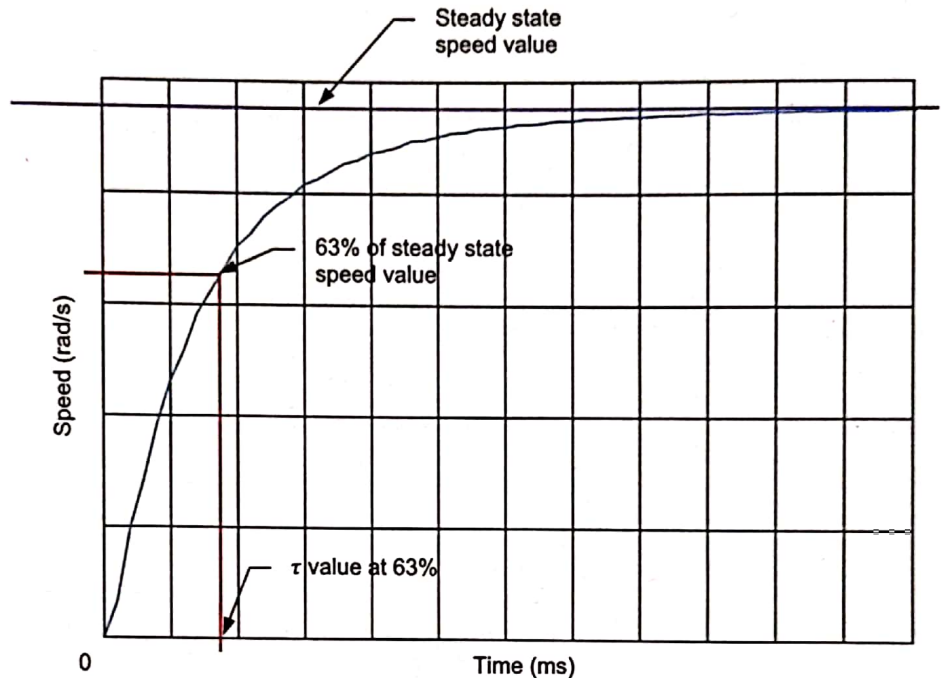

Figure 24. First-order time constant approximation.
8. Determine at which point on the curve the steady state speed value is equal to 63%. The time constant value is equal to the time between the beginning of acceleration and the 63%-speed point. Figure 24 shows how to approximate the 63%-speed point.